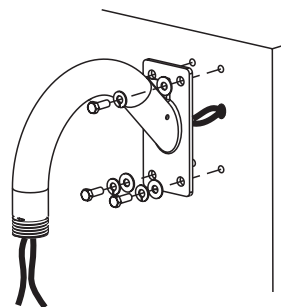

Figure 3
- 4 Mount the bracket to the wall (hardware not included) (Figure 3).